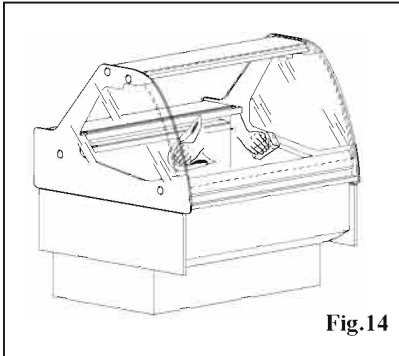

Fig.14
- clean the inside of the display cabinet, using a damp sponge (or cloth) and tepid water, but no detergents (fig.14).